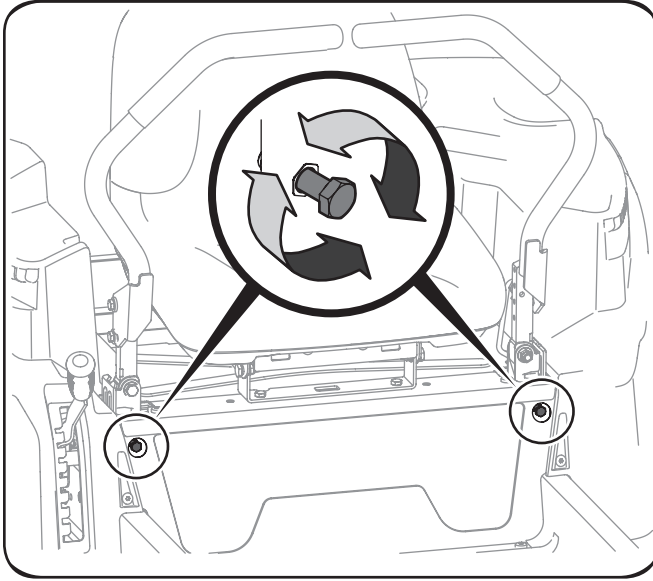

Figure 6-10
2. Locate the drive control lever stop adjustment bolts on the front of the seat frame. See Figure 6-10.